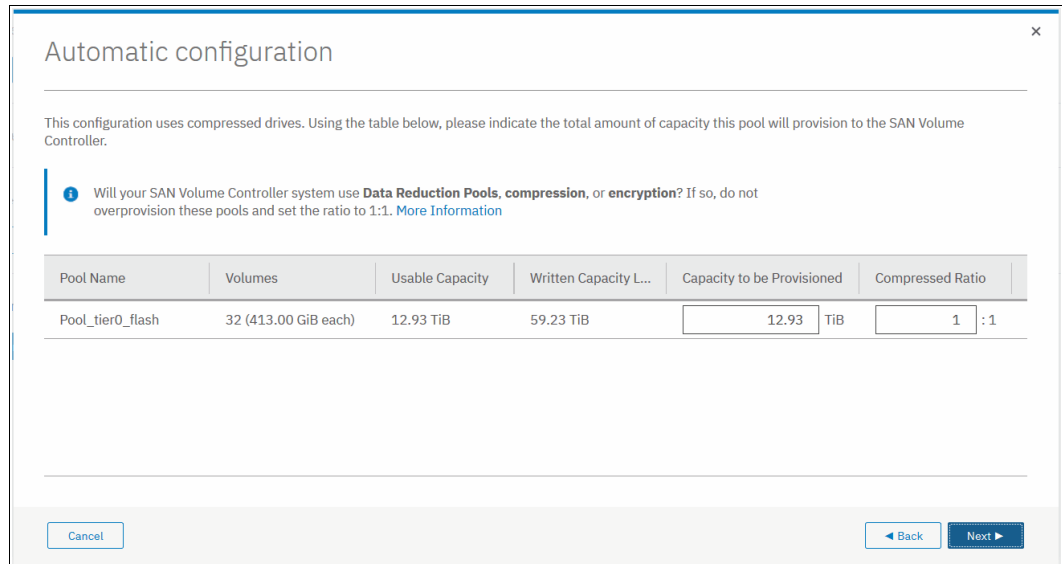

Figure 3-47 Automatic pool configuration
- If the system uses compressed drives (FCM drives), you are prompted to enter your expected compression ratio (or total capacity that will be provisioned to SVC), as shown in Figure 3-47. If SVC is using encryption or writes data that is not compressible, set the ratio to 1:1.